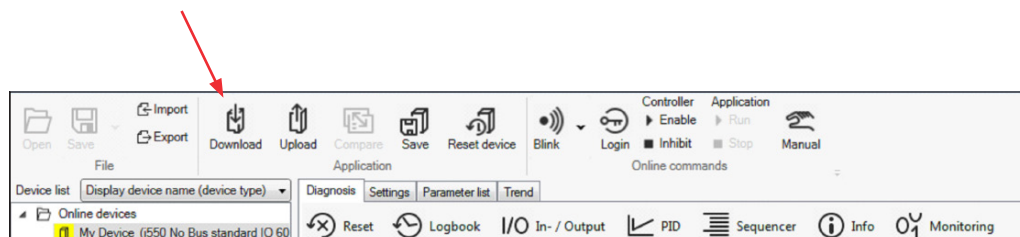

Figure 5.2. Location of the Download button.
- b. In the main user page, click on the **Download** button in the top ribbon bar (Figure 5.2). A new window will come up—click the **Next** button, and then point to the most current .gdc file to load onto the drive.